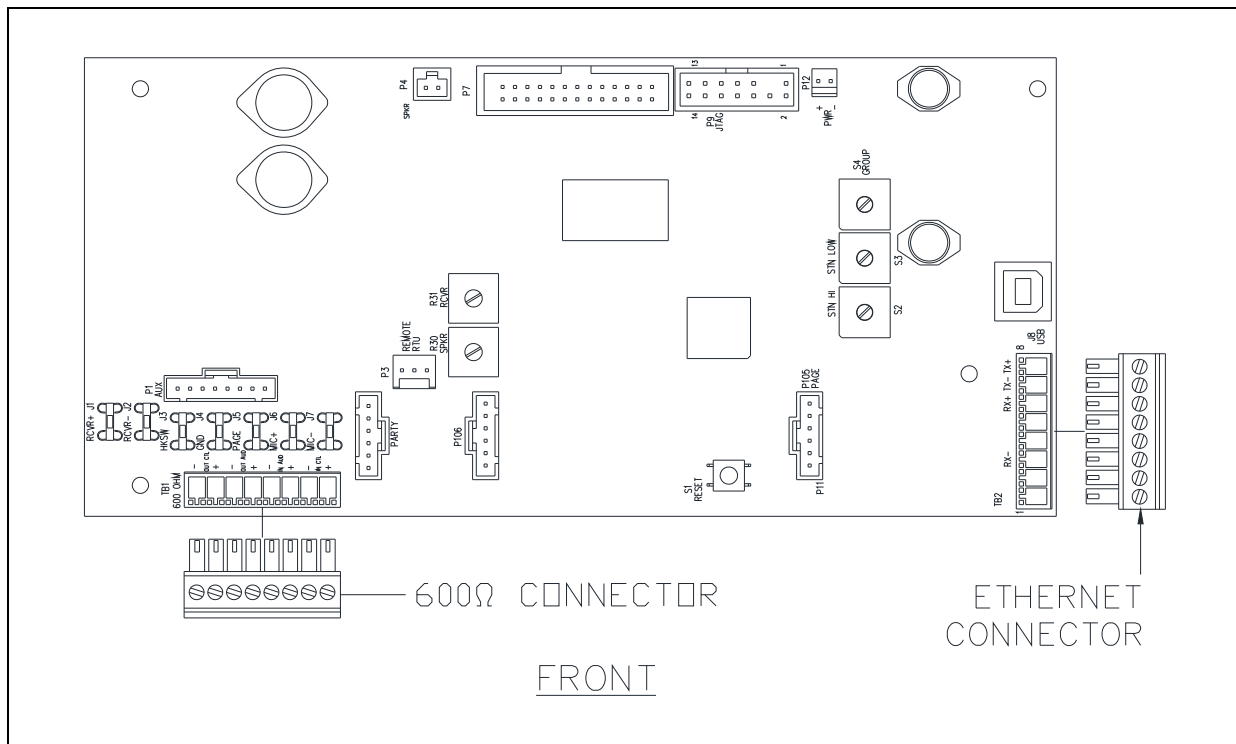

Figure 9. SP2 Main PCBA (Ethernet)
3. Connect the 600-ohm audio wires to the pluggable terminal block for the 600-ohm audio I/O connection (see Table 8 and Figure 9).
3. Connect the Ethernet cable to the 8-position pluggable terminal block (see Figure 9)
4. Connect the pluggable terminal block to the Main PCBA terminal block TB2 (see Figure 9).